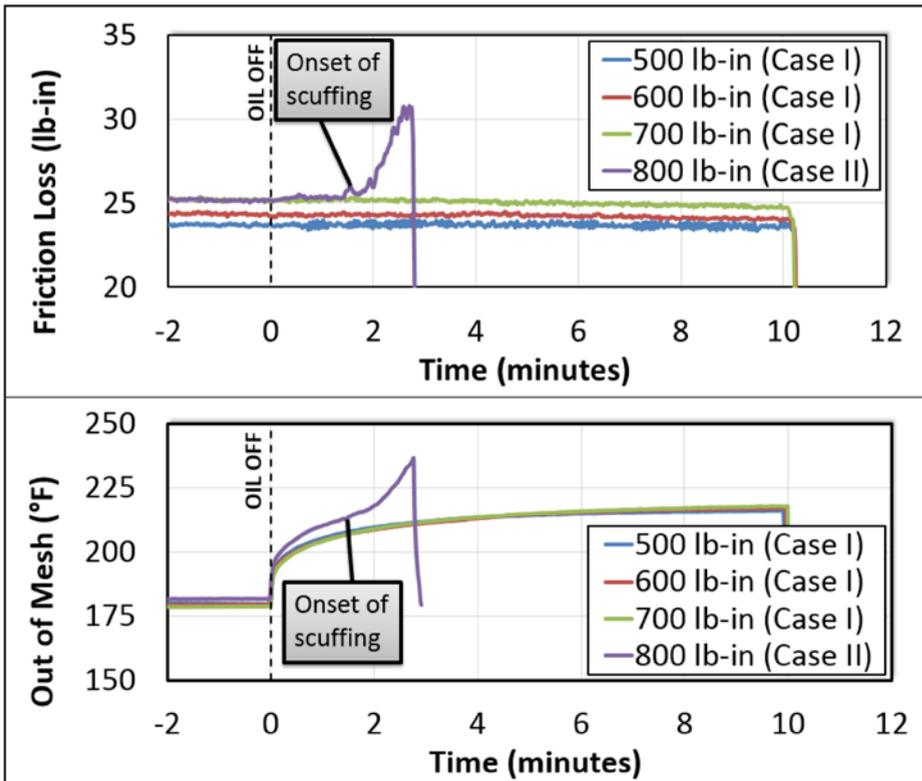
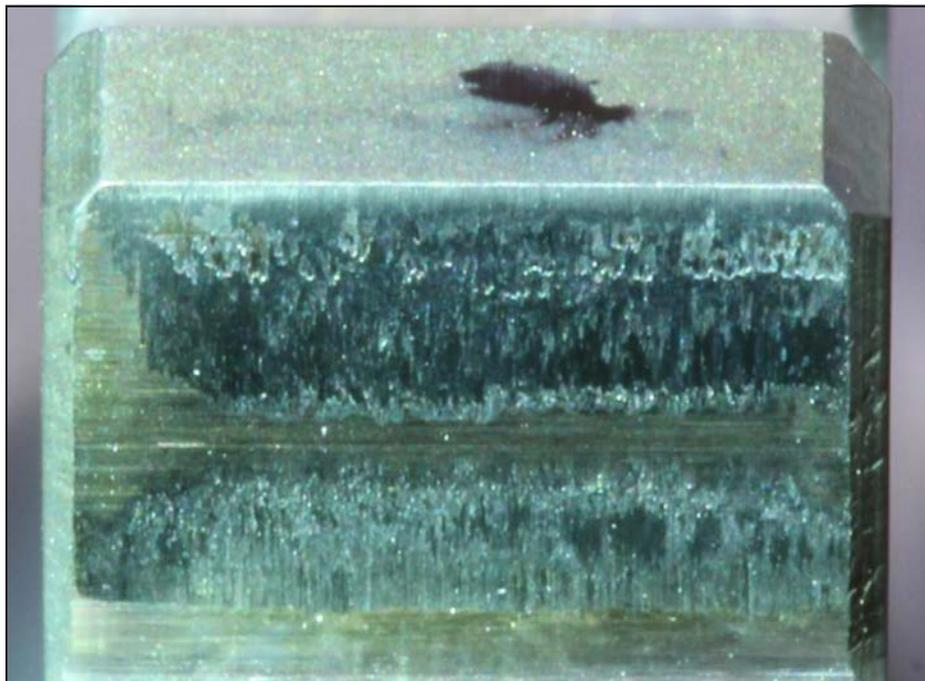

Figure 3 Detecting onset of scuffing.
Figure 4 Scuffed gear tooth.
Figure 3 shows four tests which were completed at increasing torque levels with the same gear pair. These tests were part of an initial development effort to evaluate the effectiveness of friction loss and out-of-mesh temperature to detect scuffing. Tests were stopped for visual inspection after each torque step, and the 500, 600 and 700 lb-in steps did not show any scuffing. This indicates that the residual lubricant and/or tribological film were sufficient to prevent scuffing initiation under these conditions.
**Case II: scuffing without progression to catastrophic failure.** In Figure 3, continuing testing to 800 lb-in showed a significant change in both friction and temperature trends, and visual inspection confirmed that scuffing occurred at this torque; the scuffed gear tooth surfaces are shown (Fig. 4). In a typical test sequence this test would have been allowed to continue to catastrophic failure or runout, but this test was stopped after friction and temperature trends indicated scuffing had occurred. This test result demonstrates the effectiveness of using friction and out-of-mesh temperature to detect the onset of scuffing.